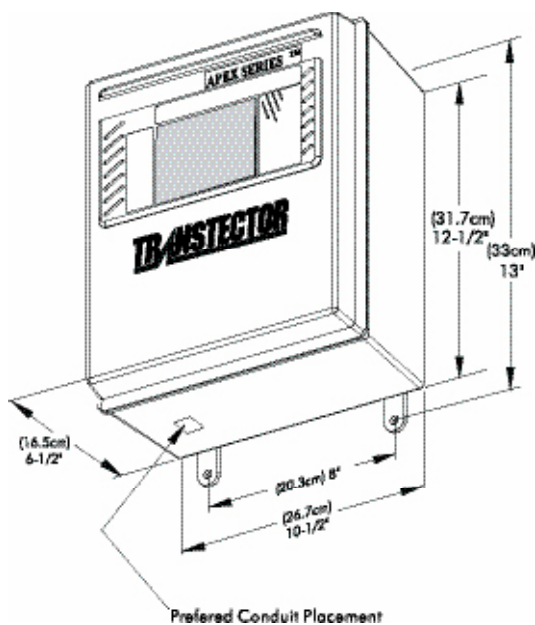

Figure 1 - Mounting Details
Refer to the APEX Series enclosure diagram (Figure 1). Note the suggested locations on either the bottom or the left side of the suppressor enclosure to drill holes to route conduit from the AC power source to the suppressor assembly. Apertures intended to provide a path for AC wiring conductors can be bored anywhere into the suppressor enclosure as long as suppression components are not damaged or obstructed in the process.
Refer to the mounting illustration (Figure 1) for the APEX Series suppressor. Drill four (4) mounting holes anywhere on the mounting surface. Insure mounting holes are spaced 8" (20.38 cm) apart from each other horizontally and are separated 13" (33 cm) vertically.
NOTE: The mechanical and electrical installation illustrations are referenced in Figures 1 through 6 and are applicable with the remaining electrical installation procedural steps.